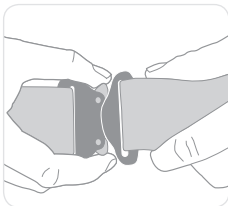

Figure 10
- Undo the quick release buckles fitted to the chest and leg straps (Figure 10).